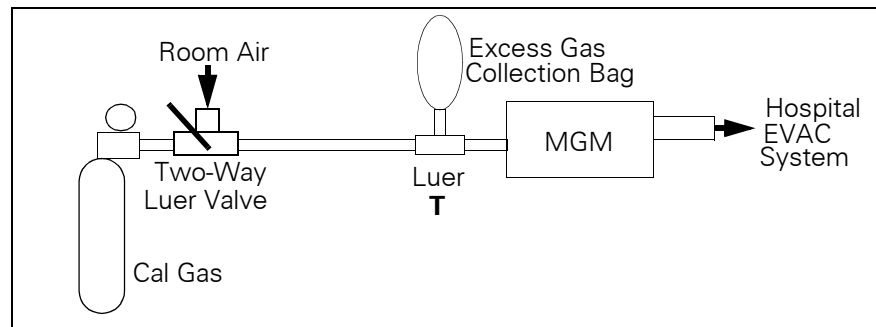

Figure 6-1 Gas Calibration / Test Setup
6. Enter clinical password (375) (4712 in SCx000 SW version VE).
9. Apply calibration gas at a flow rate of 150 ±10 ml/min., as provided from regulator in Siemens kit, to MGM as illustrated in Figure 6-1.